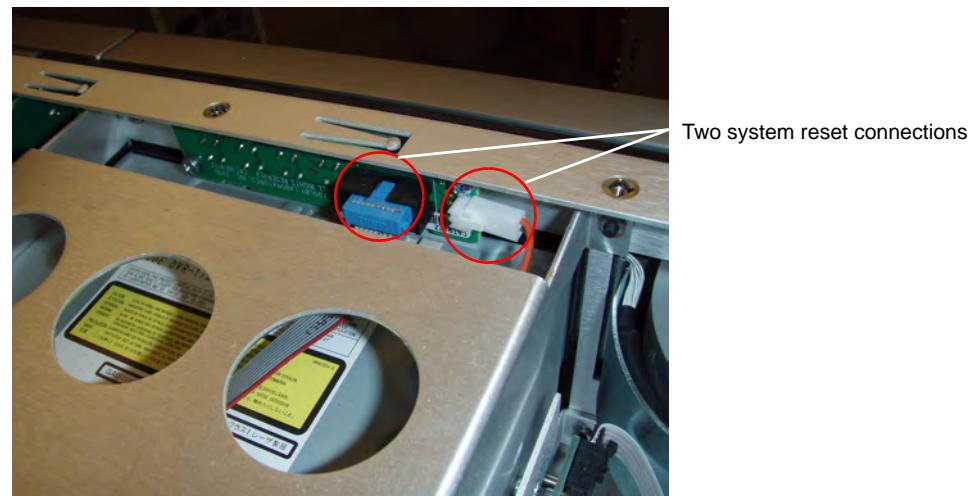

Figure 11 Connections to System Reset PCB
9. Locate the two connections to the front-panel system reset printed circuit board (PCB) shown in Figure 11.